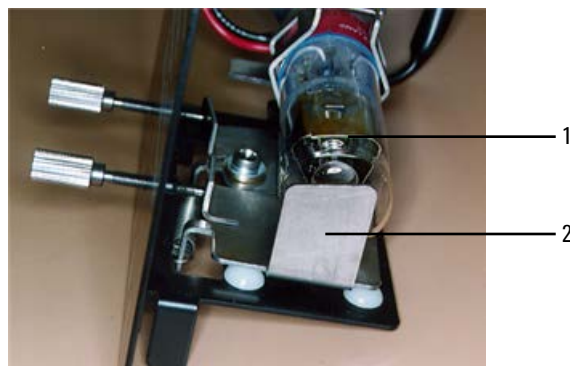

Figure 28. D₂ lamp alignment (end view)
- 8 Refer to Figure 28 and rotate the lamp so that the face with the aperture (1) is parallel with the top edge of the bracket (2).